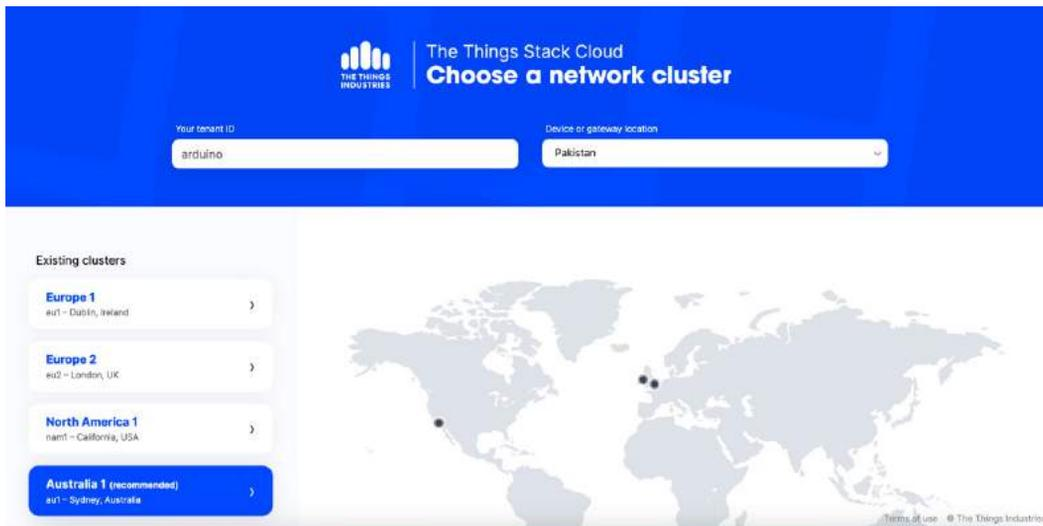

Figure 6.18 – LoRaWAN gateway registration – step 1
- Now, it's time to configure the LoRaWAN gateway in the **The Things Stack** portal, as shown in *Figure 6.18*.